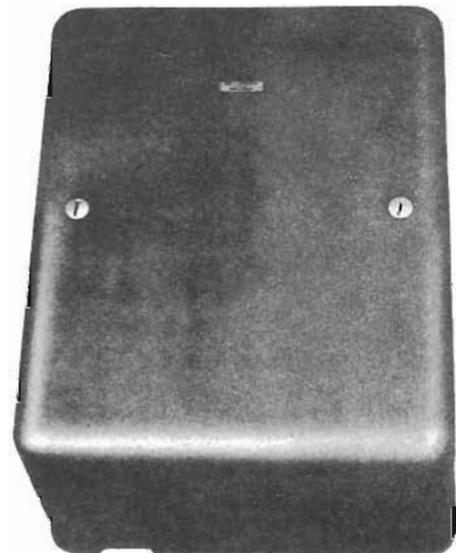

Fig. 9 – J86471A, List 2 Cabinet
6.07 When the J86731C, List 1 101G power plant is not required, the ac and dc units may be mounted in the J86471A, List 2 cabinet (see Fig. 9) for wall mounting.